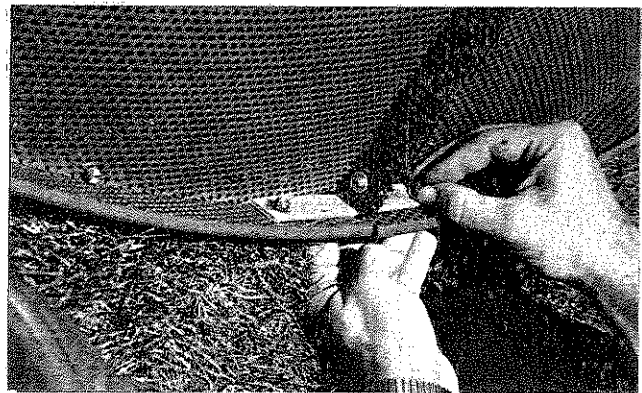

FIGURE 4
STEP 3. Attach rim splice with 4#10x5/8" bolts as shown. Use flat washers on inside of rim only. Rim splice is curved to fit rim. Tighten all four bolts. See Figures 4, 5 & 6.